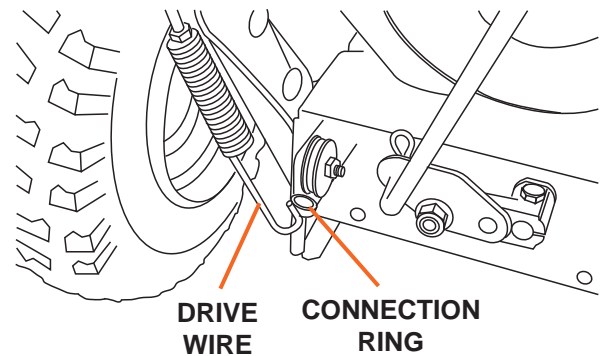

Figure 2
2. Attach the drive wire on the left side of the snow blower (see Figure 2). Remove the R-clip that connects the drive wire to the control lever on the handlebars, then slip the wire off. Attach the other end of the drive wire with the spring mechanism to the connection ring and reattach the drive wire to the control lever reinserting the R-clip. After connecting the wire adjust the tension. The wire should be taught when connected. (See Control Wire Adjustment, page 23).